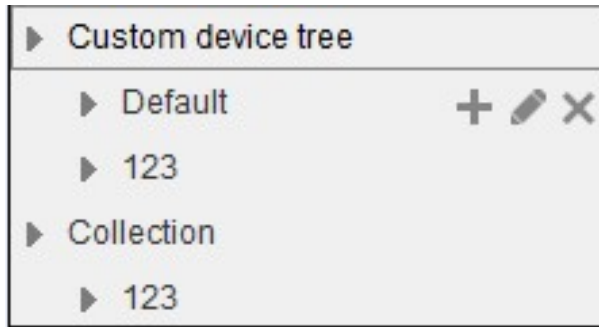

Figure 4-89
2. Enter group name and click "OK". The system creates a new group, as shown in Figure 4-89.